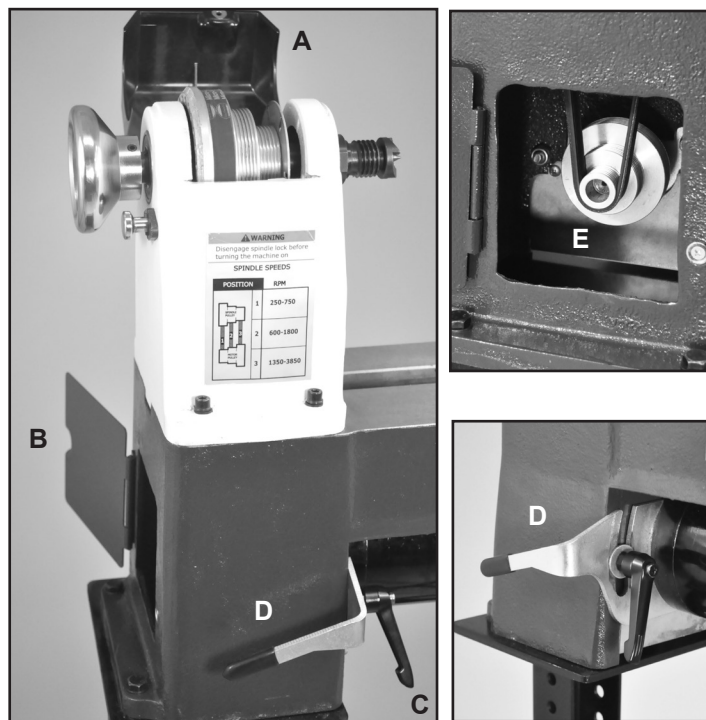

FIG. 7
2. Open the top Headstock Cover (#35, FIG. 7, A) and the left side, Bed Cover Plate Door (#8, B) to gain access to the belt and pulleys that are inside of the headstock.